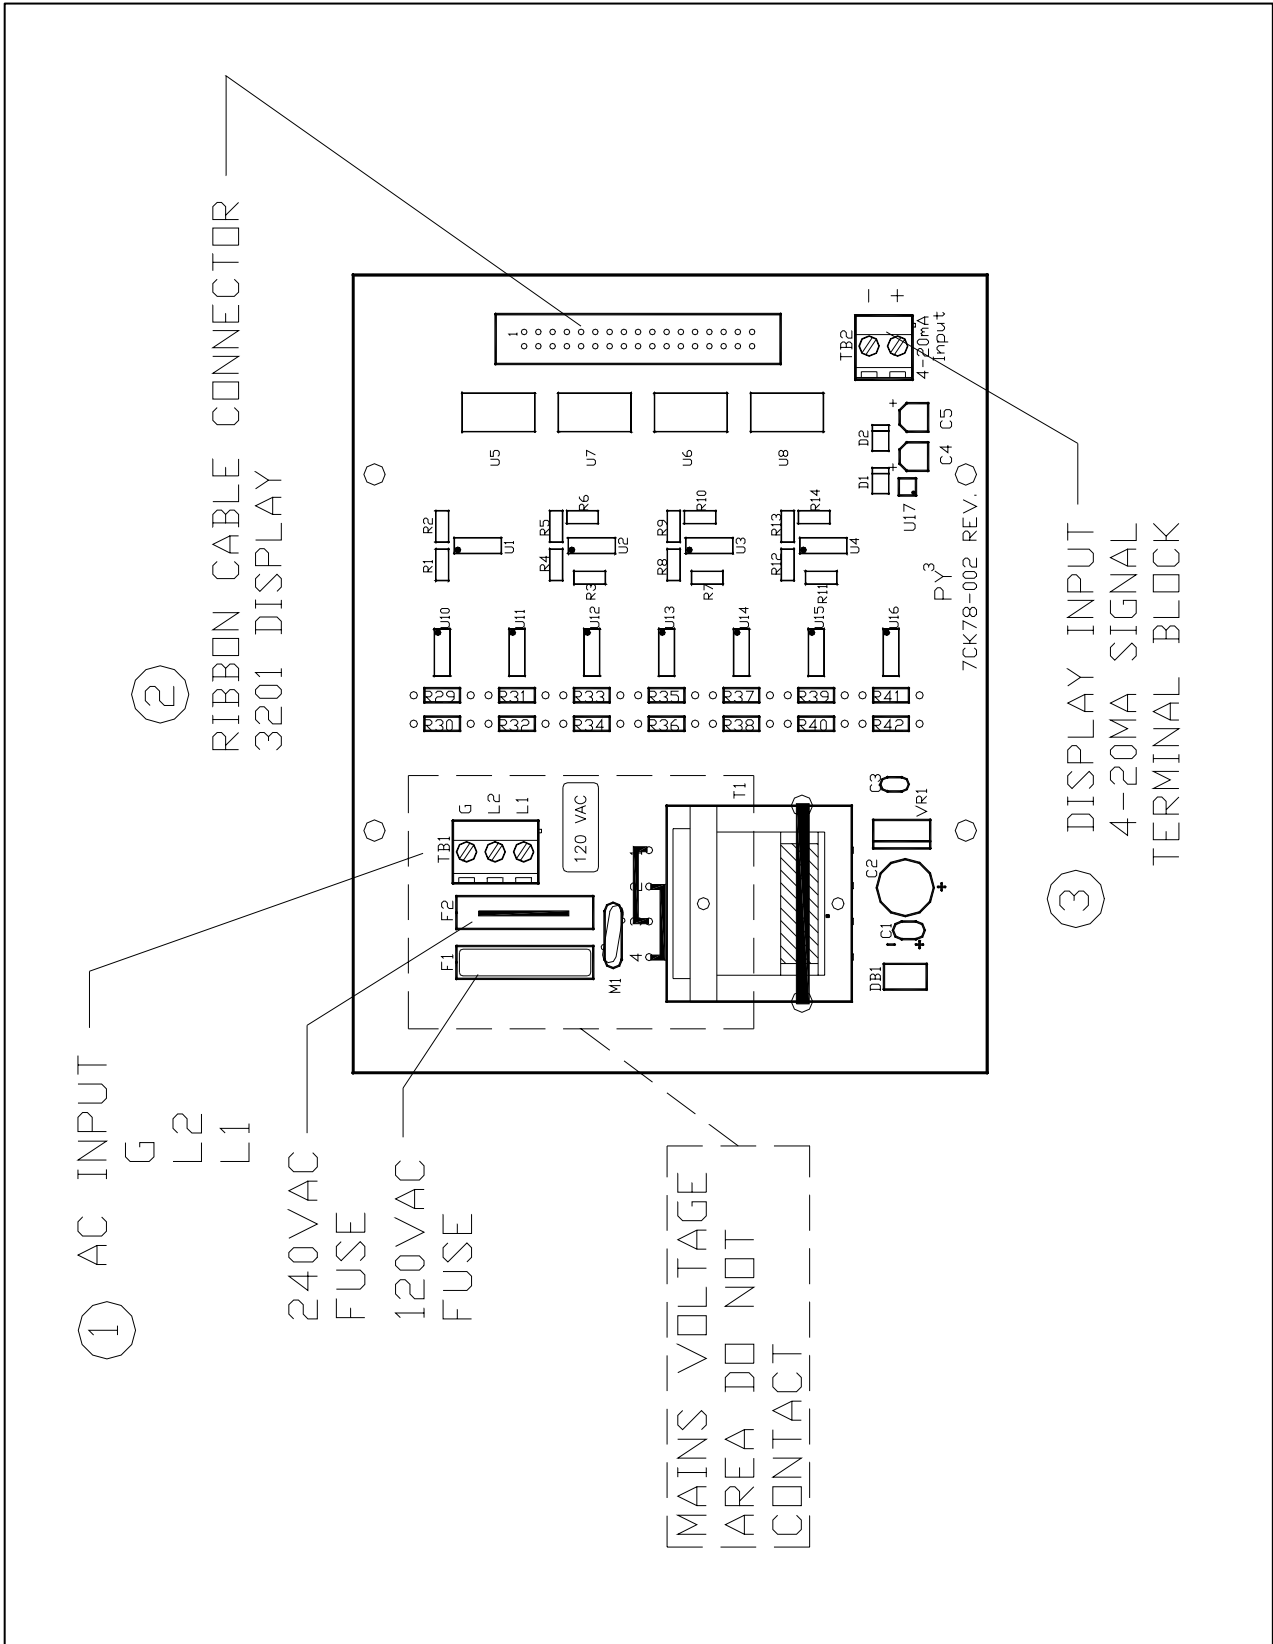
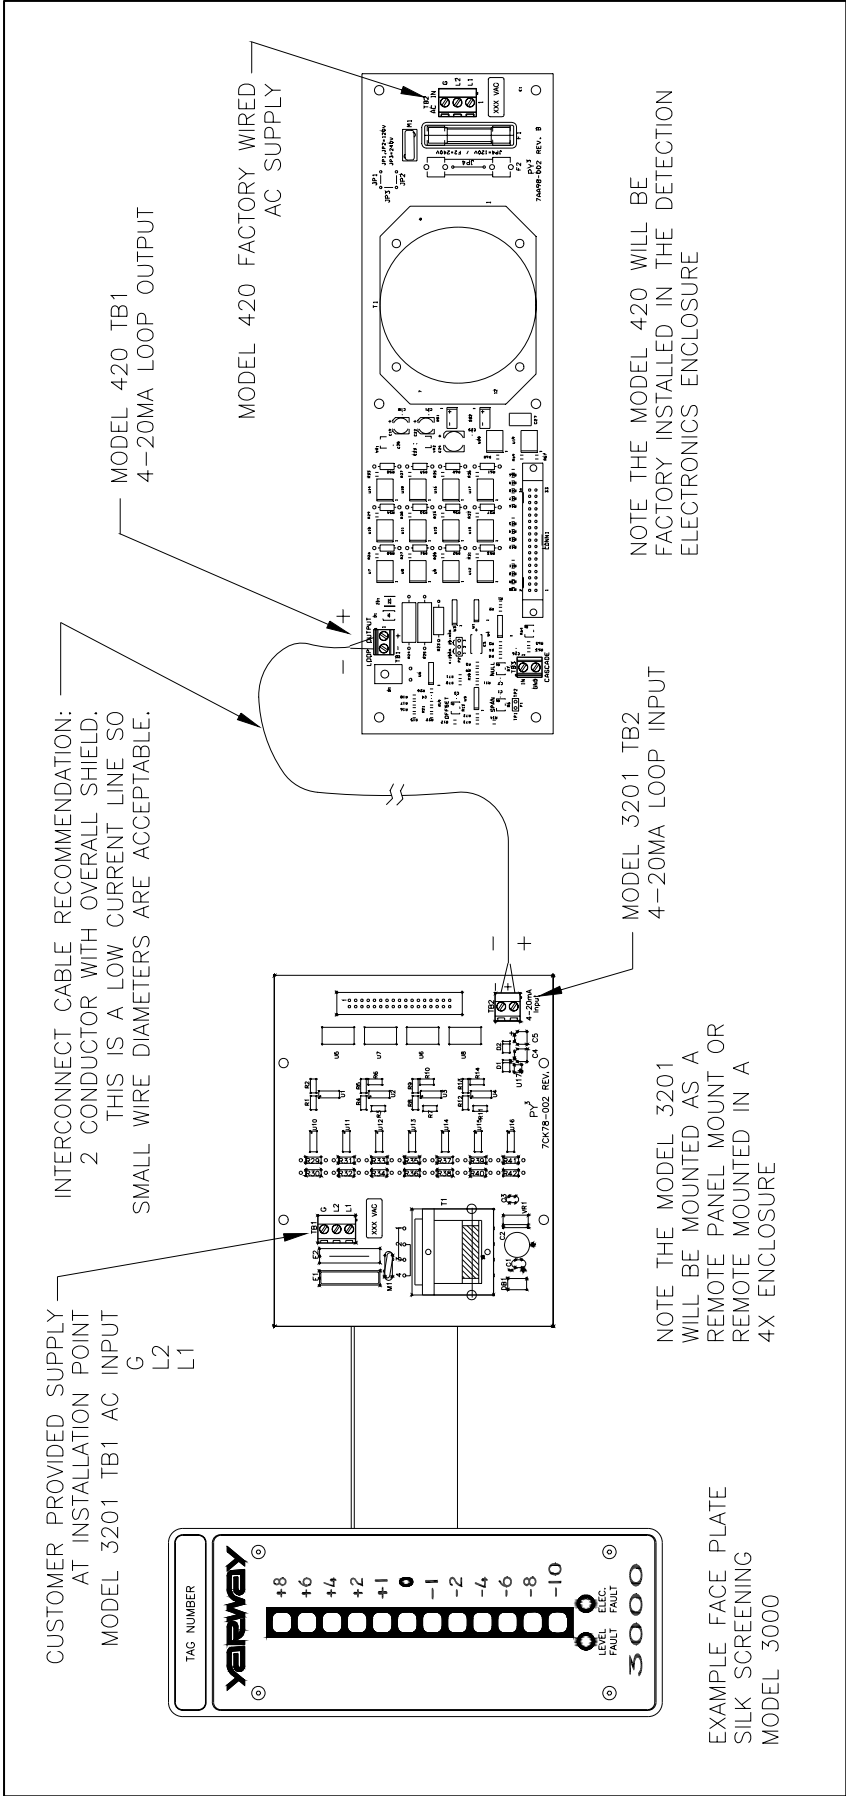

Figure 1 - Board Layout
Figure 2 – Wiring Diagram
There are many mounting options with the Model 3201. If the 3201 has been supplied as part of a new Electronic Water Level Gage and has been factory-installed in the host unit's enclosure or in a display enclosure (see Figures 5-8), then this section may be skipped. If the Model 3201 is to be field-installed, please refer to Figure 2 for wiring diagram and Figures 3-5 for mounting dimensions.
2.4 Wiring (Refer to Figure 2)
(refer to fig 1, loc 1)
The ribbon cable supplied with the module connects to the 3201 module (Figure 1, loc 2) and to the display PCB.
Display input terminal block TB2 (Figure 1, loc 3) connects to the Model 420 loop output terminal block (Figure 2).